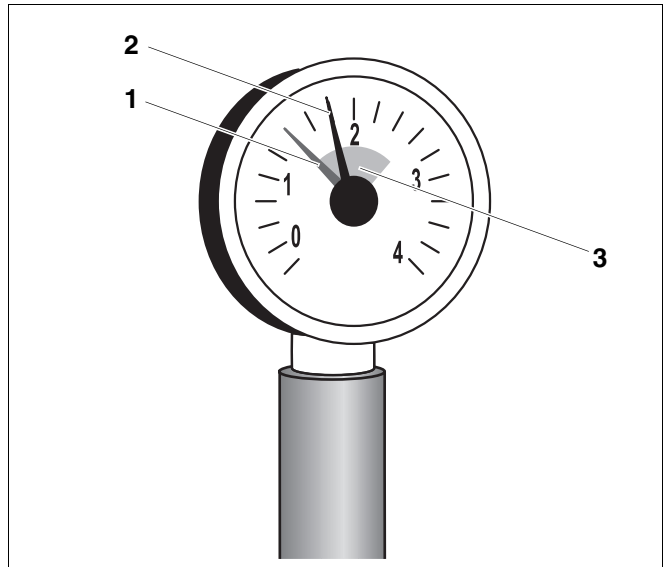

Fig. 49 Pressure gauge for **sealed systems**
On sealed systems the pressure gauge needle (Fig. 49, **item 2**) must be within the green range (Fig. 49, **item 3**). Set the red needle (Fig. 49, **item 1**) on the pressure gauge to the required system pressure.